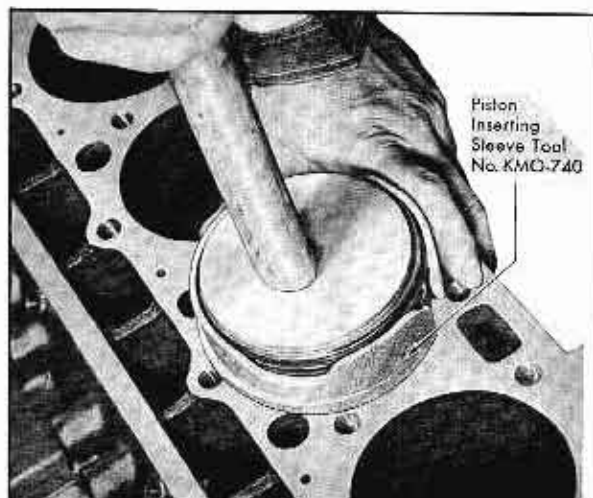

Fig. 10-27 Installing Piston in Cylinder Bore
1. Install piston and rod in cylinder bore with "REAR" on piston toward rear of engine, using Piston Inserting Sleeve, Tool No. KMO-740, Fig. 10-27.